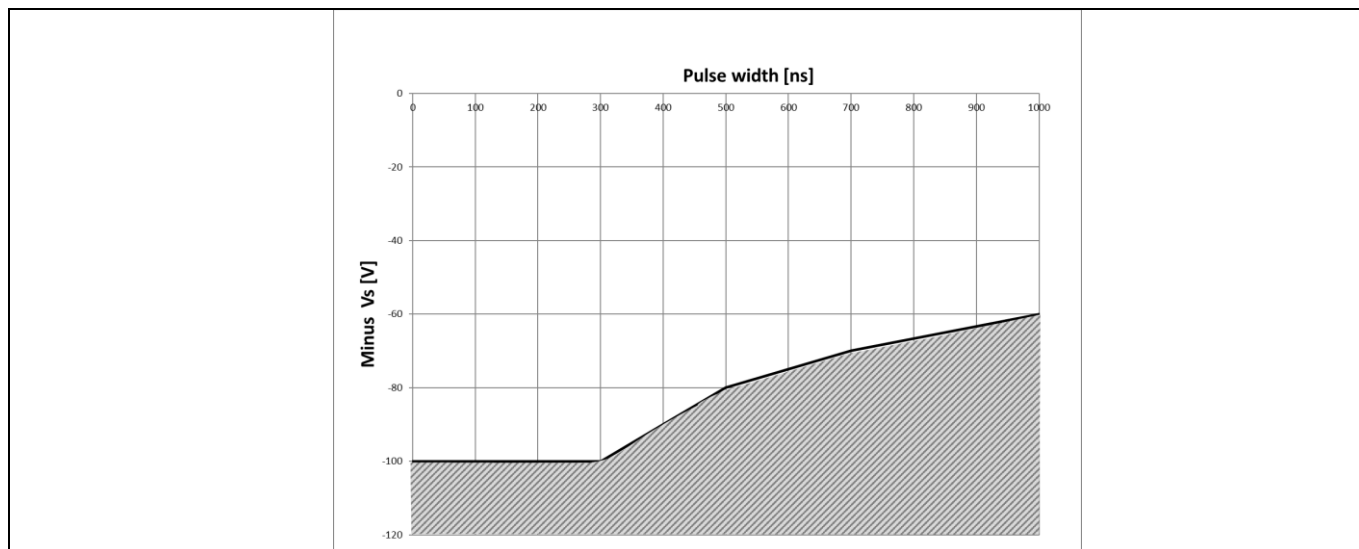

Figure 22 Negative VS transient SOA for 2ED2109 (4) S06F (J) @ VBS=15 V
Infineon's HVICs have been designed for the robustness required in many of today's demanding applications. An indication of the 2ED2109 (4) S06F (J)'s robustness can be seen in Figure 22, where the 2ED2109 (4) S06F (J)'s Safe Operating Area is shown at $V_{BS}=15$ V based on repetitive negative V_S spikes. A negative V_S transient voltage falling in the grey area (outside SOA) may lead to IC permanent damage; viceversa unwanted functional anomalies or permanent damage to the IC do not appear if negative V_S transients fall inside the SOA.